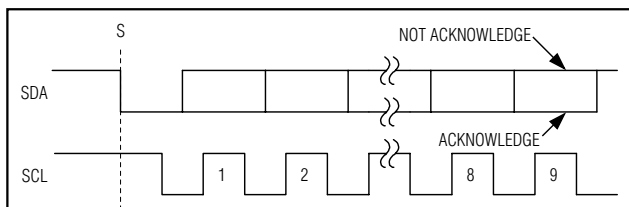

Figure 6. Acknowledge Bits
Data transfers are acknowledged with an acknowledge bit (A) or a not-acknowledge bit (A). Both the master and the MAX1236-MAX1239 (slave) generate acknowledge bits. To generate an acknowledge, the receiving device must pull SDA low before the rising edge of the acknowledge-related clock pulse (ninth pulse) and keep it low during the high period of the clock pulse (Figure 6). To generate a not-acknowledge, the receiver allows SDA to be pulled high before the rising edge of the acknowledge-related clock pulse and leaves SDA high during the high period of the clock pulse. Monitoring the acknowledge bits allows for detection of unsuccessful data transfers. An unsuccessful data transfer happens if a receiving device is busy or if a system fault has occurred. In the event of an unsuccessful data transfer the bus master should reattempt communication at a later time.